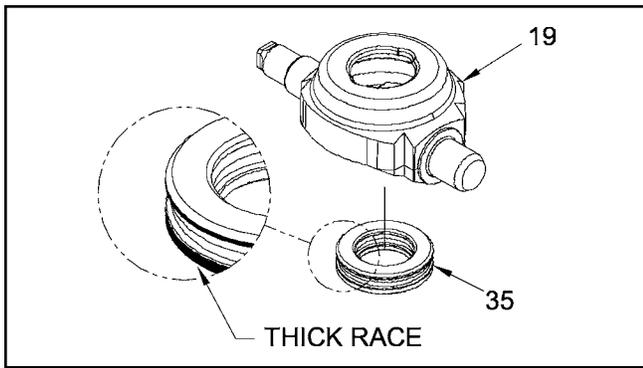

Figure 17.
11. **(See Figure 17)** Remove the thrust bearing
11. (See Figure 17) Install the pump thrust bearing (35) in the trunnion machined swashplate (19). NOTE: Place the thin race of the bearing towards the swashplate. The thick race must face the pistons.